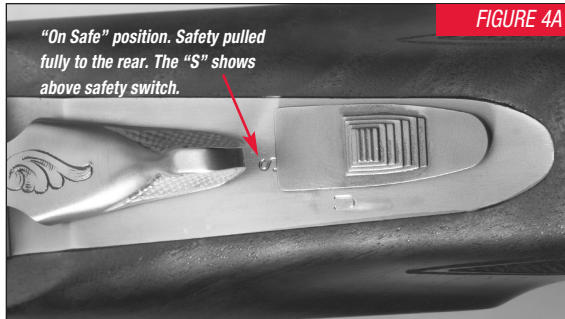

FIGURE 4A
- **“On Safe”** When pulled fully to the rear with your thumb an “S” is exposed at the front of the safety switch. This shows you visually that the safety is in the “on safe” position (Figure 4A).